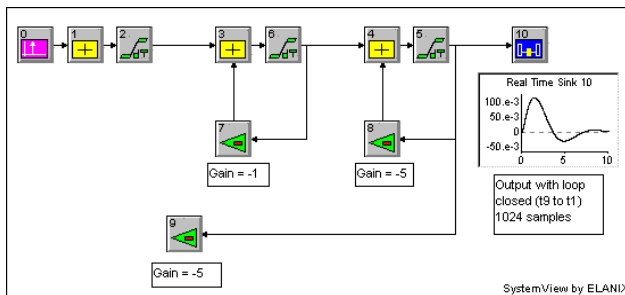
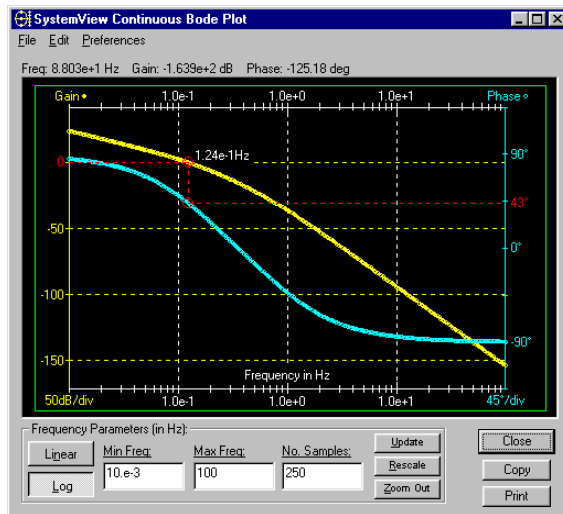
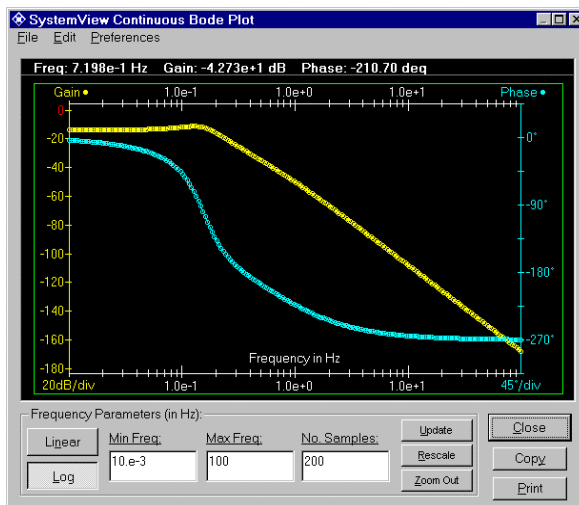

Figure 15.2. A third-order system for Root Locus and Bode computation
Figure 15.6 The SystemView Bode plot window for the open-loop system
Figure 15.7. The SystemView Bode plot window for the closed-loop system
1. Disconnect the output of the last token in the feedback path of the system (e.g., disconnect token 9 from token 1 as shown in Figure 15.2).
An example is shown in Figure 15.2, for the third-order system. The open-loop transfer function for this system is, $H(s) = \frac{-5}{s(s+1)(s+5)}$
Figure 15.3 shows the corresponding Root Locus window. Move the mouse along the root locus and read the loop gain value displayed in the window. This is the *additional* gain factor for the system. If the system already has feedback gain, (e.g., token 9 in Figure 15.2), then the total feedback gain corresponding to a root location is the displayed gain value *times* the existing gain.
The system in Figure 15.2 has poles in the right half plane for an additional gain of six or greater and will be unstable for a total loop gain exceeding
Z-Domain Root Locus for the system in Figure 15.2 (zoomed)
- Z-Domain Root Locus (with implicit delays) for system in Figure 15.2 (zoomed)
The Bode plot shows the magnitude and phase of $H(s)$ as a function of the frequency f in Hz (with $s = j2\pi f$). An example is shown in Figure 15.6 for the *open-loop* system discussed in Section 15.1, and shown in Figure 15.2. The *closed-loop* (i.e., connecting Gain token 9 to Adder token 1) response for the same system is shown in Figure 15.7.
- For the open-loop Bode plot, disconnect the output of last token in the feedback path of the system (e.g., disconnect token 9 from token 1 as in Figure 15.2).
The system phase margin is computed from the system phase at the frequency where the system gain is 0dB. This point is automatically indicated in the display as shown in Figure 15.6.